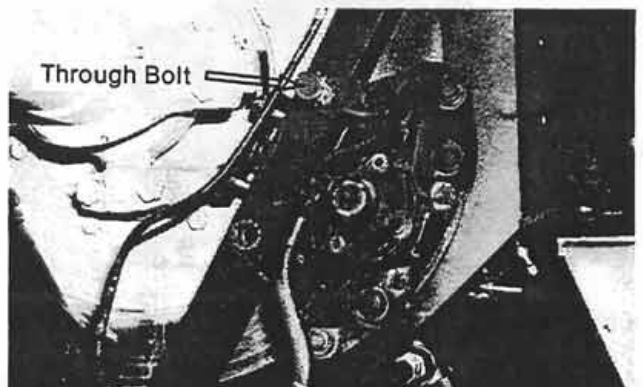

Figure 4:
2. Remove the pair of through-bolts at the brake hangers and mount bar (Fig. 4). The caliper assembly with hangers will then be free for removal.